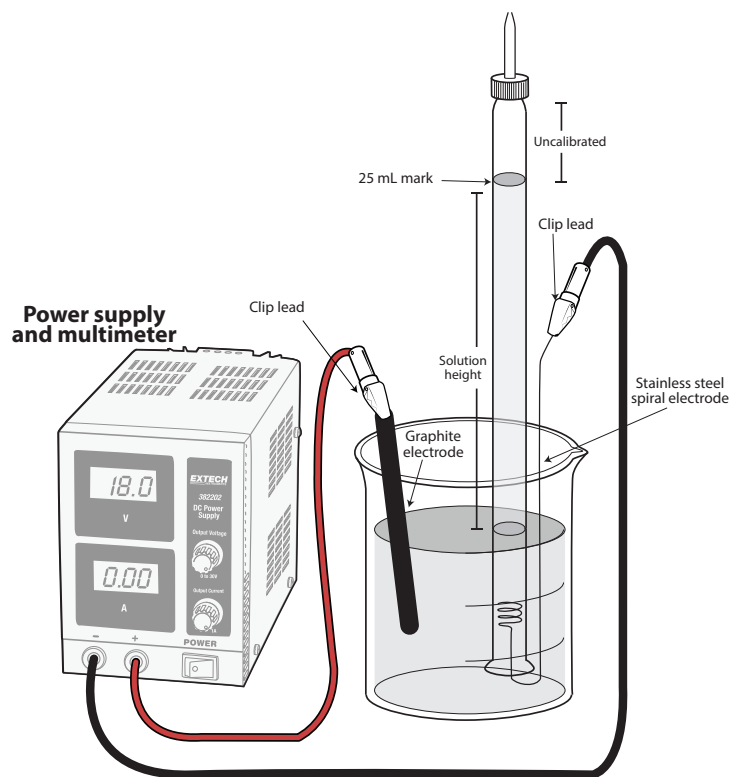

Figure 2. Electrolysis Apparatus
2. You will set up the electrolysis assembly to electrolyze water and collect hydrogen gas in your buret. Oxygen gas is generated at the graphite electrode and allowed to escape into the atmosphere. Figure 2 shows selected parts of the assembled apparatus as it should appear at the instant the electrolysis begins.
- c. Connect the (–) terminal from the multimeter to the spiral electrode. Connect the (+) terminal from the multimeter to the graphite electrode. Be sure you are collecting the hydrogen gas at the spiral electrode! Do NOT put the graphite electrode into the solution in the beaker just yet. Refer to Figure 2.
- b. Put the attached graphite electrode into the beaker as shown in Figure 2. Now adjust the current knob to get a reading of about 0.2 Amps.